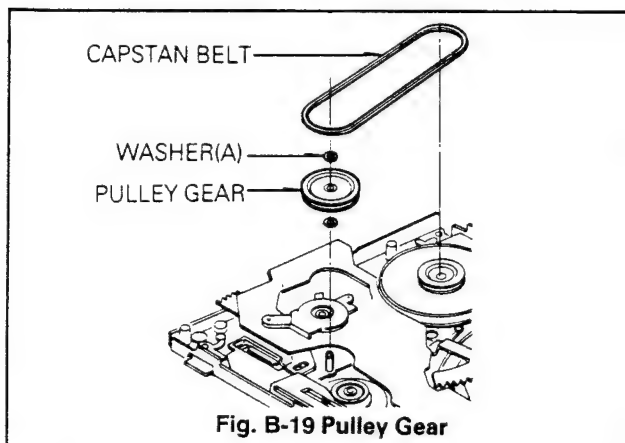

Fig. B-19 Pulley Gear
- 1) After removing the Supply Reel, and supply Main Brake Assembly, remove the washer(C) and remove the Idler Gear(A).
- 2) Remove the Washer(D) and remove the Idler Gear(B).
19. Pulley Gear Assembly(Fig. B-19)